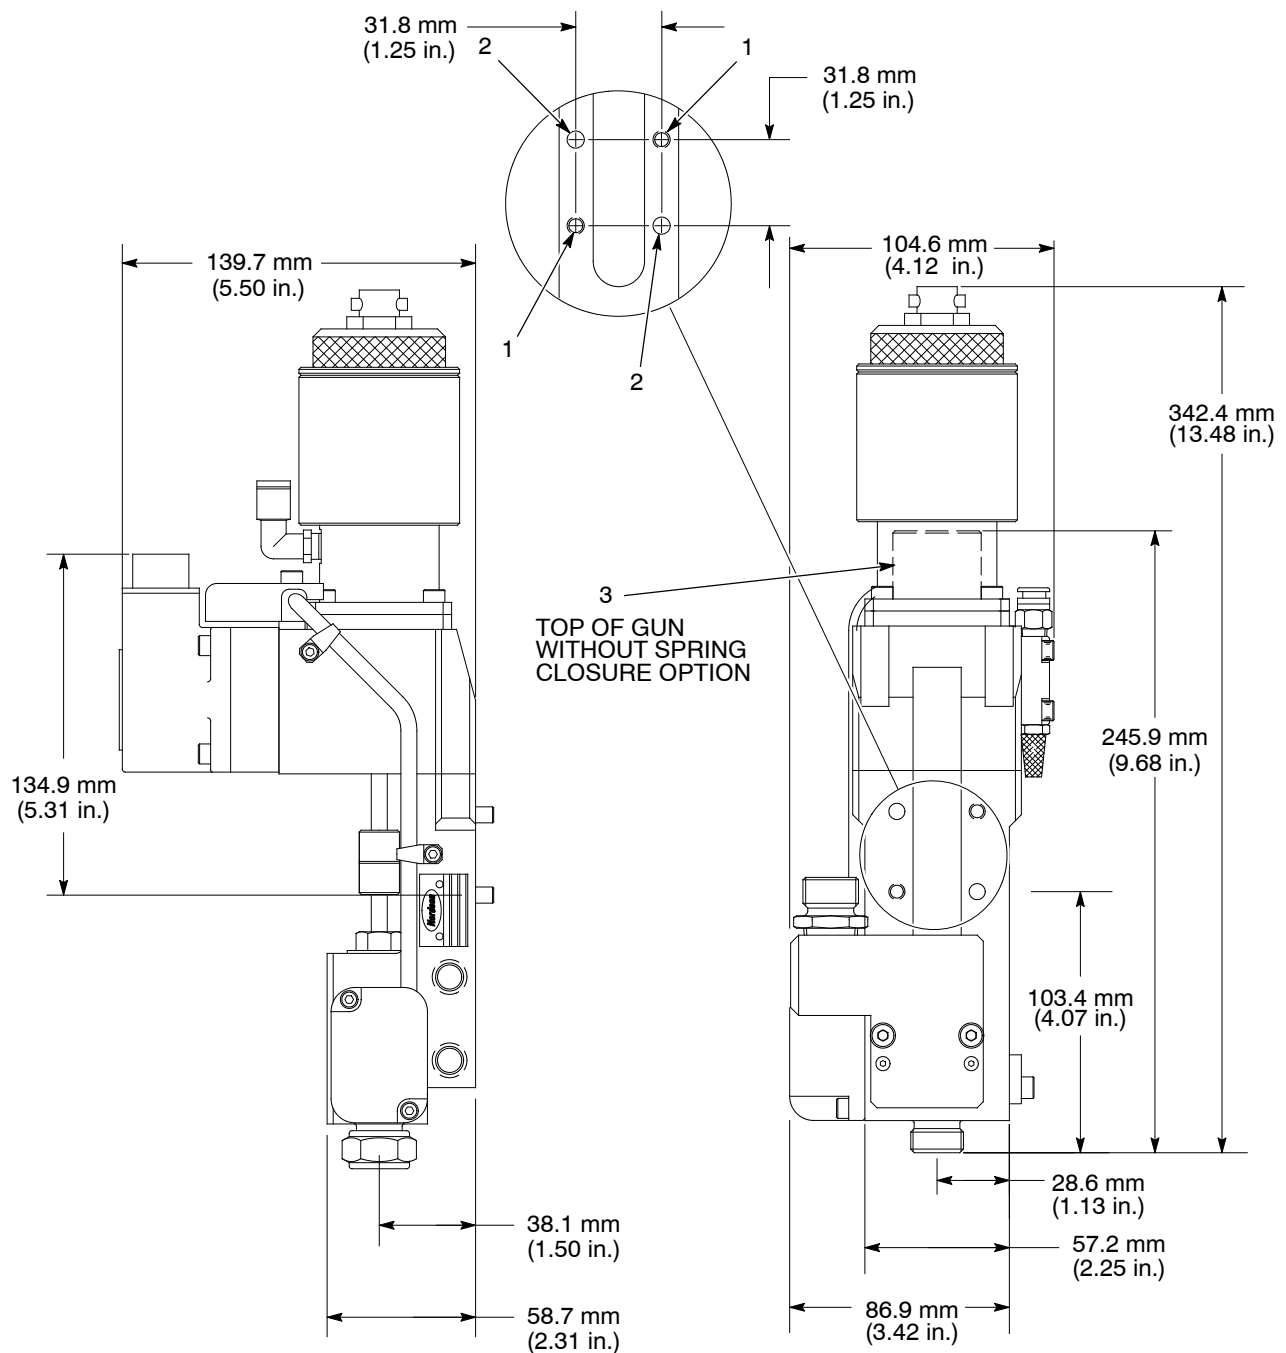

Figure 2 Dimensions
See Figure 2. Mount the gun to the robot arm using an adapter designed for the application. The adapter must accept two $\frac{1}{4}$ -20 threaded mounting bolts (1) and two $\frac{1}{4}$ in., nominal, dowel pins (2) spaced in a square pattern as shown.